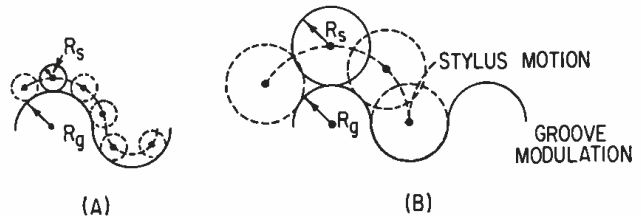

Figure 5. The effect of tip radius on tracing distortion. At (A) is a small tip radius while at (B) the effects of a large tip radius may be seen.
Tip Radius: Tracing distortion is directly proportional to the tip radius. As the tip radius increases, the difference between the distances the ball center travels on the convex and concave segments of the groove contour increases and thus increases the distortion. FIGURE 5 shows two identical grooves; in FIGURE 5(A) it is played with a relatively small tip radius, and in FIGURE 5(B) with a large tip whose radius equals the modulation radius. The distortion is negligible in FIGURE 5(A) compared to the high distortion of FIGURE 5(B).